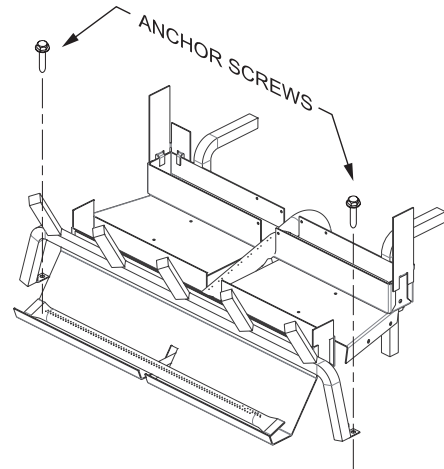

Figure 4
3. Anchor the grate to the fireplace/firebox floor using the screws provided. Refer to Figure 4.